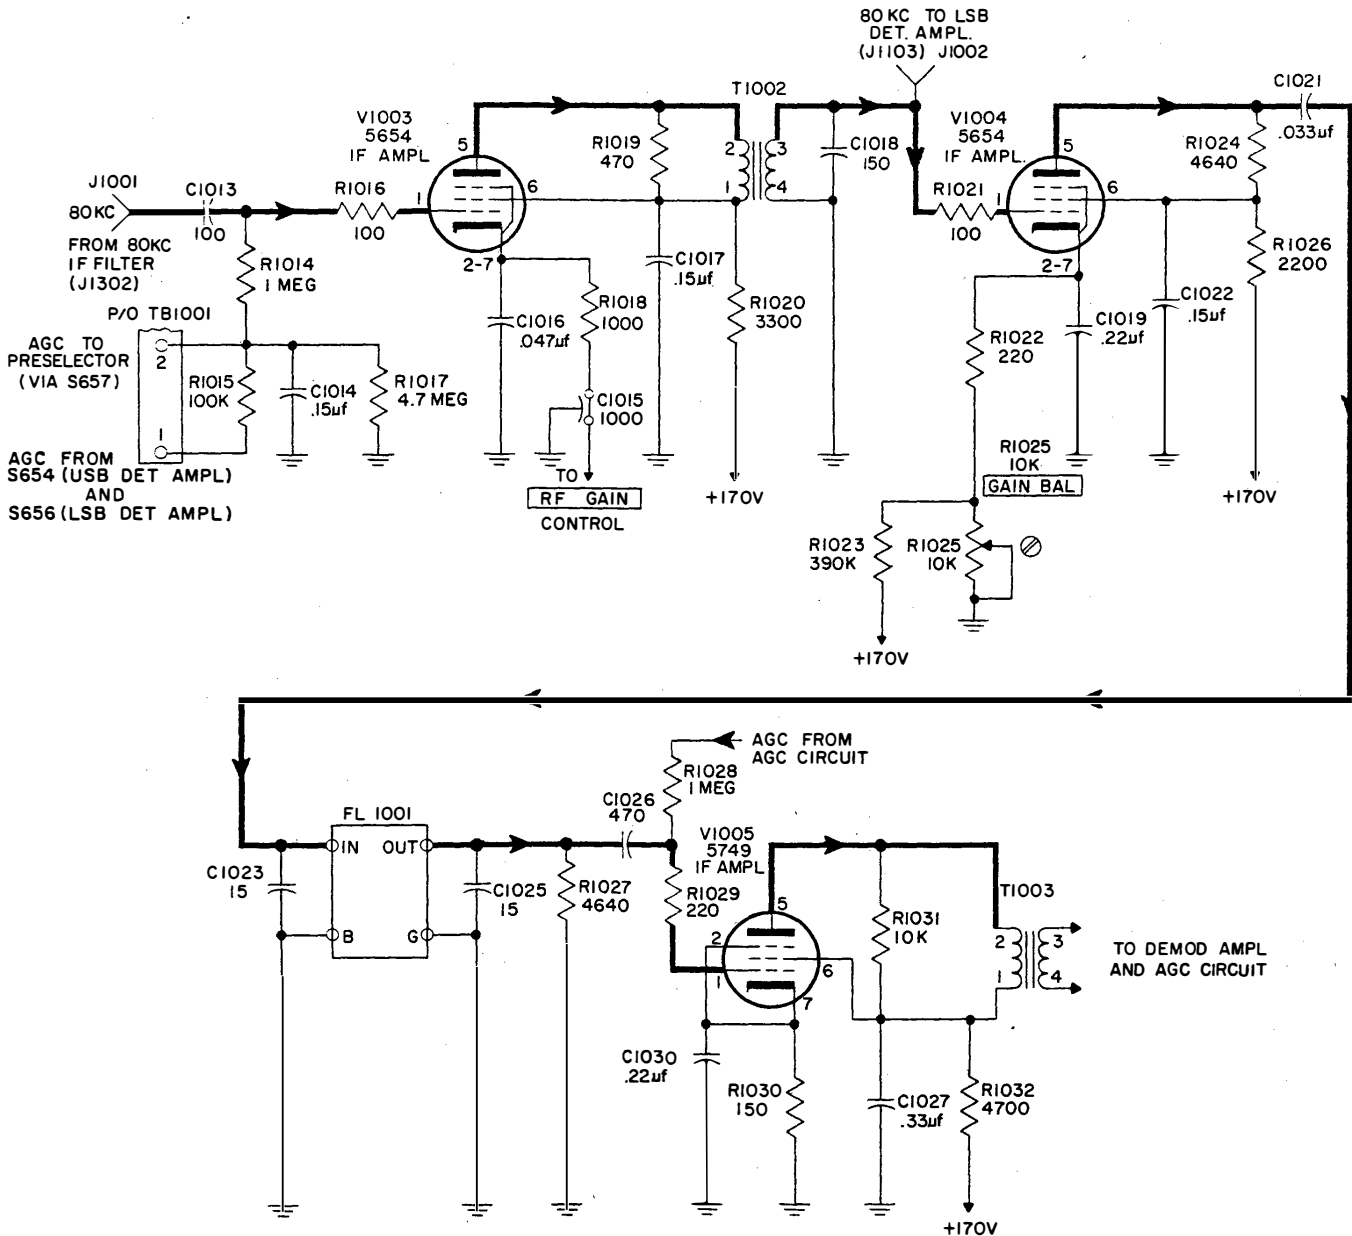
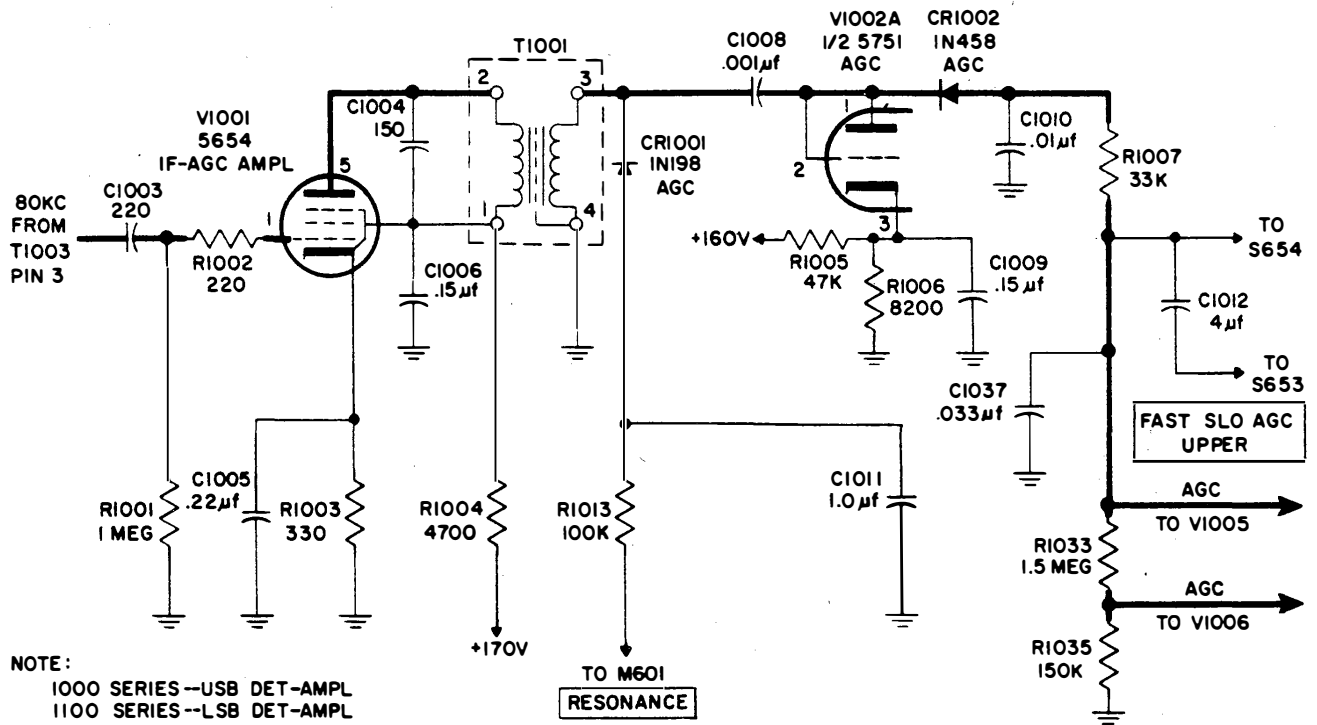
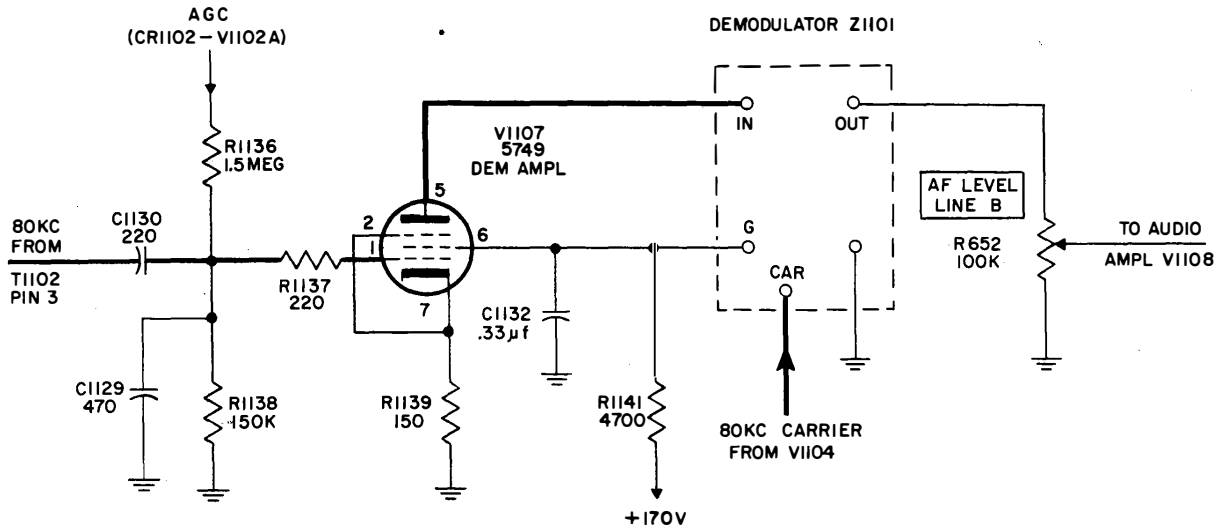

Figure 4-27. IF Amplifiers V1003, V1004, and V1005, Simplified Schematic Diagram
Figure 4-28. Automatic Gain Control Circuits, Simplified Schematic Diagram
Figure 4-34. Demodulator Amplifier V1107 and Balanced-Ring Demodulator Z1101, Simplified Schematic Diagram
*b. IF AMPLIFIERS V1003, V1004, AND V1005.* (See figure 4-27.)—The grid of V1003 receives its signal from the 80 kc filter through input connector J1001 and coupling capacitor C1013. The output of V1003 is developed across IF transformer T1002 and applied to IF amplifier V1004, also to the LSB detector-amplifier by way of connector J1002. The gain of V1003 is governed manually by the R.F. GAIN control on the lower converter panel and automatically by the voltage from
(figure 4-28). The latter develops a control voltage which is fed back through isolating resistor R1028 to the grid of V1005 (figure 4-27).
c. AGC CIRCUITS. (See figure 4-28.)—The 80 kc signal from T1003 (plate load of V1005) is applied to IF AGC amplifier V1001 through capacitor C1003. The output of V1001 is developed across transformer T1001 and applied directly to diode CR1001 and through capacitor C1008 to diodes V1002A and CR1002.
Figure 4-28 is the schematic diagram for the AGC circuits of both the USB and LSB detector amplifiers. These circuits are identical except for symbol reference designations. Numbers on the figures in the 1000 series refer to the upper sideband; those in the 1100 series refer to the lower. Both series are shown on the diagram.
The output of FL1101 is applied through coupling capacitor C1127 to IF amplifier V1106, the amplified output of which is developed across IF transformer T1102 and fed to demodulator amplifier V1107 (figure 4-34) and the AGC circuit (figure 4-28). The gain of V1106 is governed manually, by the R.F. GAIN control on the lower converter panel, and automatically, by the
*c. LSB DETECTOR-AMPLIFIER AGC CIRCUITS.* (See figure 4-28.)—The operation of the AGC circuits of the USB and LSB detector-amplifiers is identical. Refer to sub-paragraph 4-9c for a discussion of both. Figure 4-28 is a schematic diagram of both circuits. Symbol reference designations in the 1000 series refer to the USB circuits; those in the 1100 series refer to the lower sideband.
*e. DEMODULATOR AMPLIFIER V1107, BALANCED-RING DEMODULATOR Z1101.* (See figure 4-34.)—Demodulator amplifier V1107 receives its input signal from IF amplifier V1106 (T1102) through capacitor C1130. The plate load impedance of V1107 is in demodulator Z1101, which in addition detects the LSB IF signal. A second input to Z1101 is the 80 kc inserted carrier from carrier amplifier V1104. When Z1101 receives no IF signal at its IN terminal it has no output, but when there is an IF input at IN, the combination of IF signal and 80 kc carrier results in output